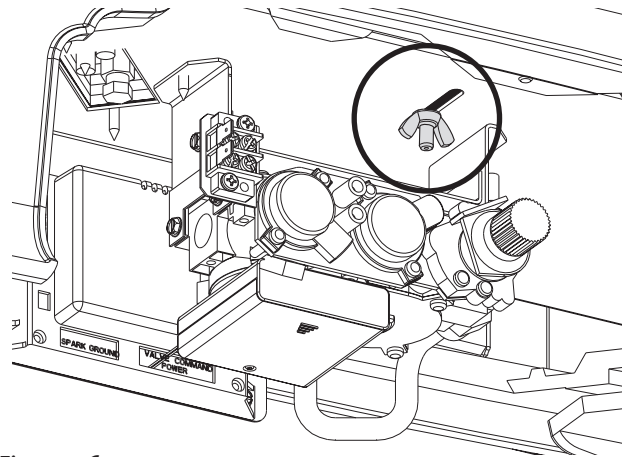

Figure 26.
6. Reach under the stove and loosen the Air Shutter wingnut. Pull the shutter stem back to ease burner removal. See fig. 26